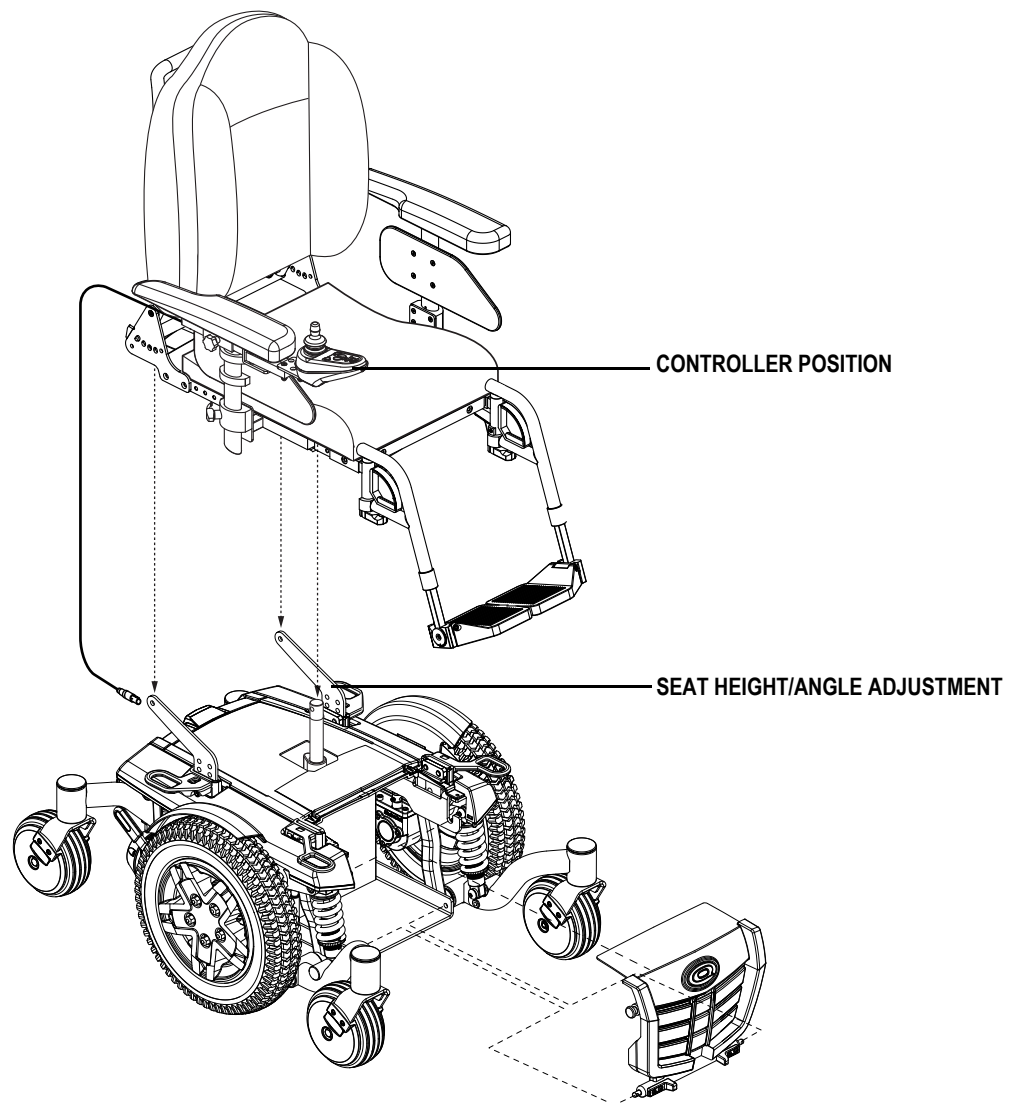

Figure 6. Quantum Q4 Assembly View
Your power chair may require some assembly either before initial use or after transportation. It may also require disassembly to make some comfort adjustments. **Figure 6** details those parts of the power chair that are designed to be disassembled and assembled by an end user or by a qualified caregiver before using the product or making comfort adjustments.
3. Install the controller and route the harness to the back of the power base. See figure 6.